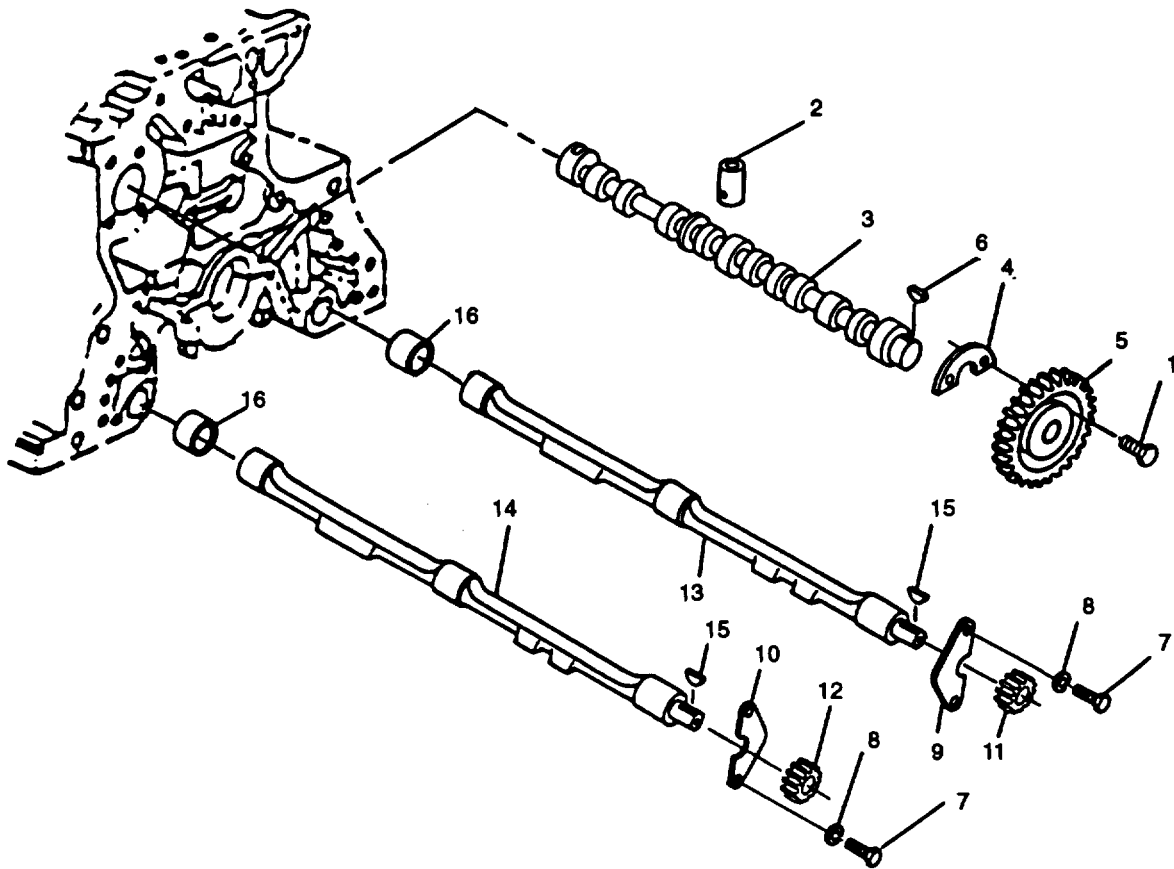

FIGURE 3-108. Camshaft and Balancer Shafts
- e. When removing camshaft (3, FIGURE 3-108) with engine on rollover stand, roll engine to a horizontal position with oil pan side up.
a. Install gear (5, FIGURE 3-108) as follows:
- (1) Install key (6) in camshaft.
- (2) Install gear (5) with timing mark facing away from camshaft (3), aligning slot in gear with key (6).
- (3) Using a tubular driver, press gear (5) on camshaft (3) until gear is flush with shoulder on camshaft.
b. Coat camshaft lobes and cam followers (2) with a general purpose grease (630AA).
- e. Remove two capscrews (7, FIGURE 3-108) and lockwashers (8) securing each thrust plate (9 and 10); remove thrust plates (9 and 10). Discard lockwashers.
- b. With bushings (16, FIGURE 3-108) removed, check for cracked or broken block bosses.
- e. Inspect bushings (16) in engine block for wear or damage.
- f. Measure balancer shaft bushing (16) ID.
- (1) New standard bushing diameter is 1.5030 to 1.5054 inches (38.177 to 38.237
- (2) New oversize bushing diameter is 1.5035 to 1.5045 inches (38.194 to 38.220
- i. Install new bushings (16) and/or a new balancer shaft (13 or 14) if oil clearance is not within specification.